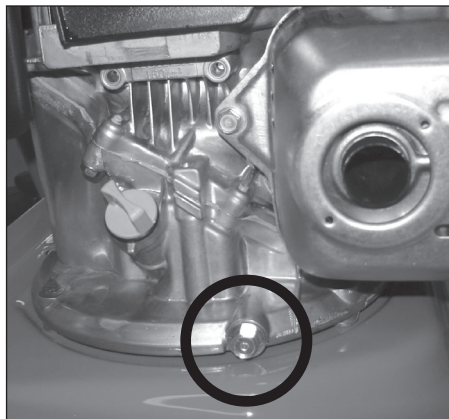

Figure 16 - Oil Drain Location
2. Locate and remove the engine oil drain plug (See Figure 16).